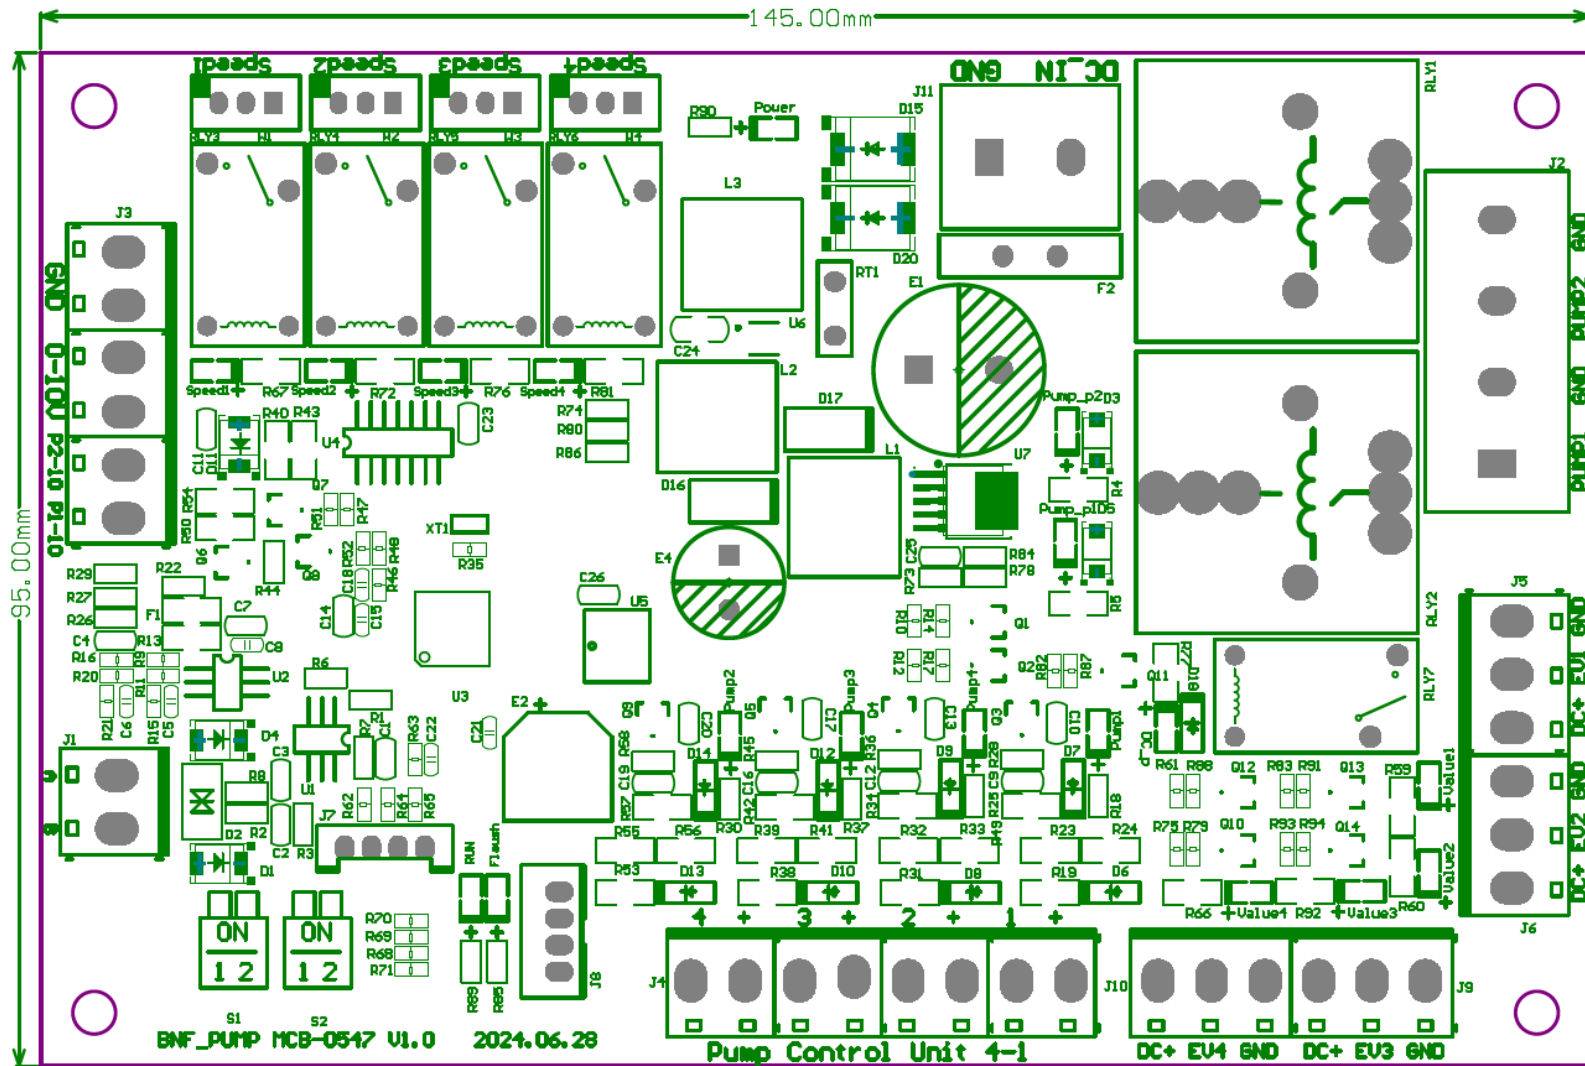

Figure 6: control device PCB
- Figure 6: Control device PCB